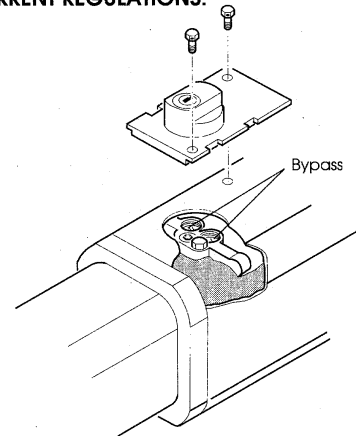

Fig. 11
The sensitivity with which this device operates can be adjusted by turning the bypass screws. These can be reached by unscrewing the fixing screws on the unlocking device as illustrated in Fig. 11.
N.B.: It is possible to fit security seals to the fixing screws. This will prevent unauthorized tampering (Fig. 11).